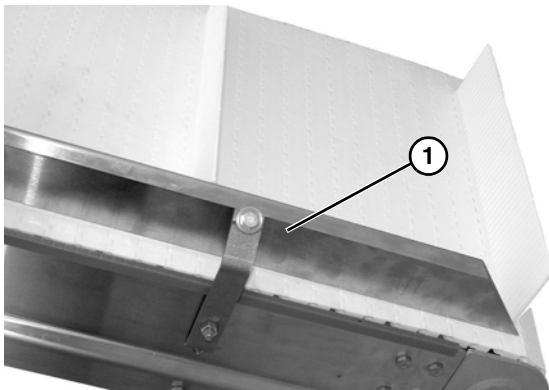

Figure 30
1. Remove guides (Figure 30, item 1) when required.